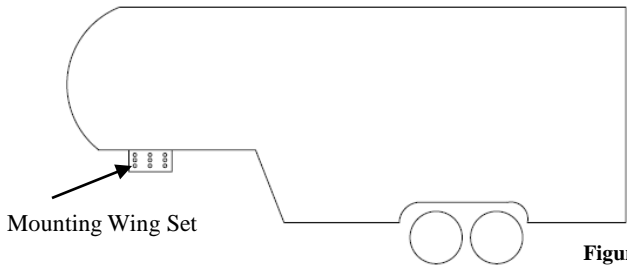

Figure 7A
1. Before removing the original pin box, take note of the number of bolts used attaching the existing pin box to the mounting wing set. Cequent Performance Products recommends using at least the same number of bolts upon installation as removed from the original pin box. (Figure 7A)